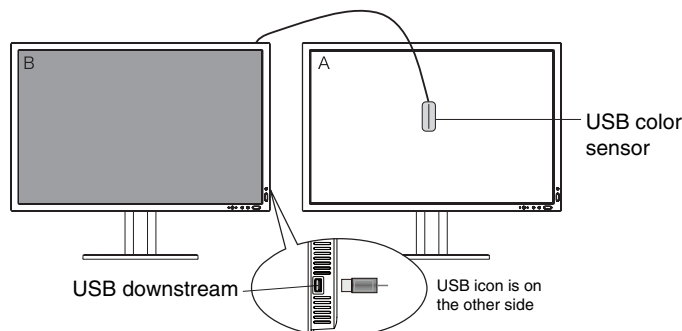

Figure C.1
4. The procedure will ask for the USB color sensor to be placed on the center of the display panel (**Figure C.4**). Tilt the display panel approximately 5° backward and place the USB color sensor in the center of the display panel (**Figure C.1**).